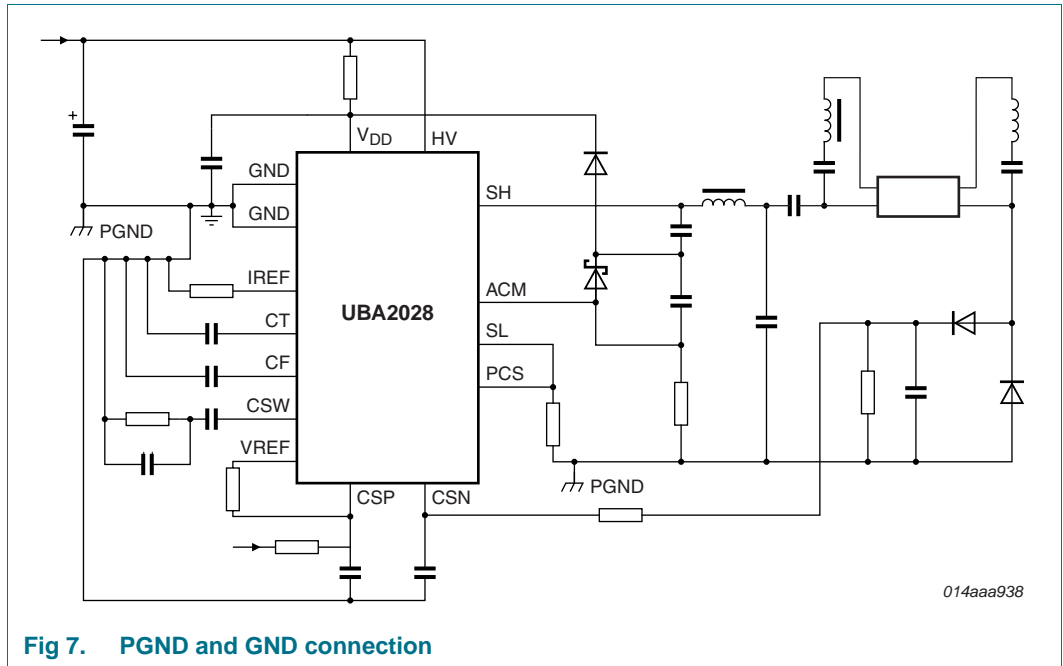

Fig 7. PGND and GND connection
The internal oscillator is a Voltage Controlled Oscillator (VCO) circuit which generates a sawtooth waveform between the $V_{o(\text{osc})\text{max}}$ level and 0 V. The frequency of the sawtooth is determined by capacitor C_{CF} , resistor R_{IREF} , and the voltage at pin CSW. The minimum and maximum switching frequencies are determined by R_{IREF} and C_{CF} ; their ratio is internally fixed. The sawtooth frequency is twice the half-bridge frequency. The UBA2028 brings the transistors TR1 and TR2 into conduction alternately with a duty cycle of approximately 50 %. An overview of the oscillator signal and driver signals is illustrated in Figure 7. The oscillator starts oscillating at f_{max} . During the first switching cycle the Low-Side (LS) transistor (TR2) is switched on. The first conducting time is made extra long to enable the bootstrap capacitor to charge.
The non-overlap time is realized with an adaptive non-overlap timing circuit (ANT). By using an adaptive non-overlap circuit, the application can determine the duration of the non-overlap time and make it optimum for each frequency; see Figure 7. The non-overlap time is determined by the slope of the half-bridge voltage, and is detected by the signal across resistor R15 see Figure 8 (R6 in Figure 9) which is connected directly to pin ACM. The minimum non-overlap time is internally fixed. The maximum non-overlap time is internally fixed at approximately 25 % of the bridge period time. An internal filter of 30 ns is included at the ACM pin to increase the noise immunity.
The connection of PGND and GND is shown in Figure 7